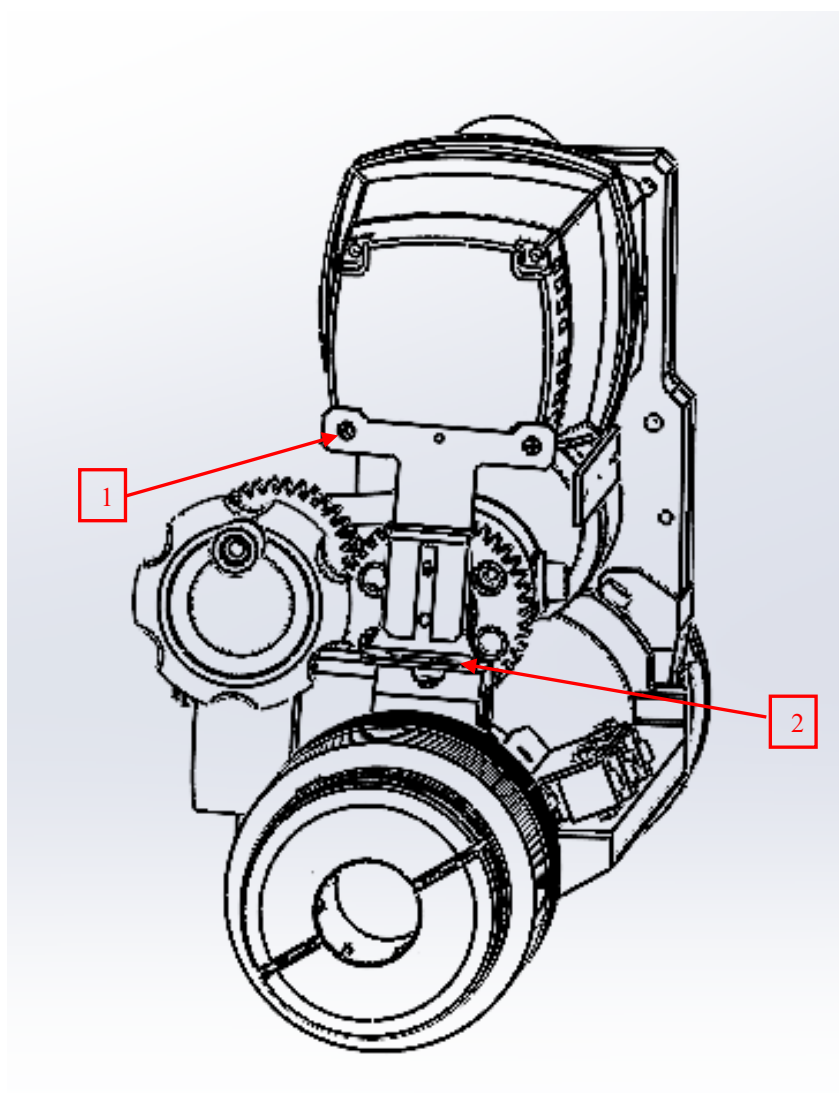

Figure 2.6
- 2.2.1 Proceed to remove the motor protection cover, unscrewing the four screws shown in figure 2.6 – position 1 and the 2 anchor screws as shown in figure 2.6 – position 2;